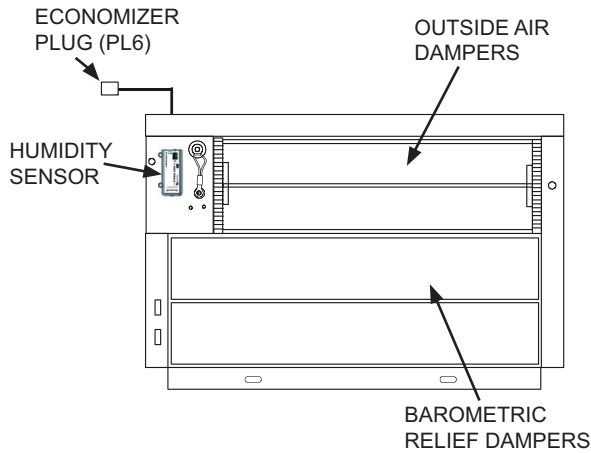

Fig. 2 — Humidity Sensor Location for 48/50LC
2. In some cases it may be necessary to remove the aluminum filter in the hood to install the humidity sensor. Install the humidity sensor in the outdoor air stream as shown in Fig. 2. Screw the sensor in place. Make sure the sensor does not interfere with the hood.